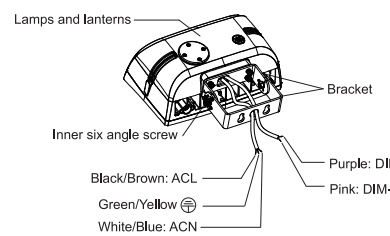

figure 5.3
Step 2: Finish the wire connection according to the right mode of connection (pay attention to positive wire, negative wire, and ground wire). (figure 5.3)